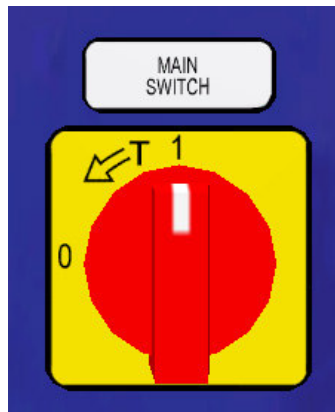

Fig. 29. Main switch
4. Switch on the isolators on each starter (fig. 29).